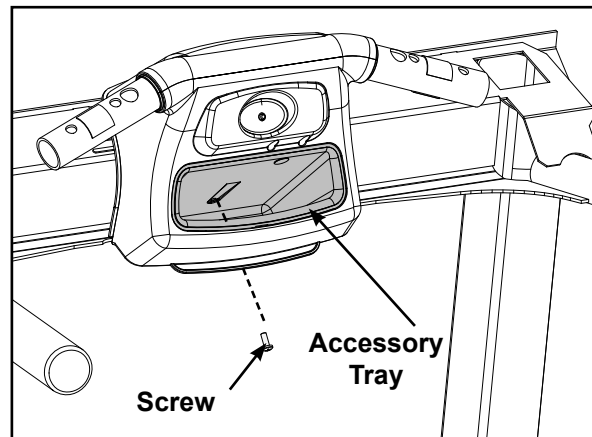

Figure 30
- Using a Phillips screwdriver remove the screw securing the accessory tray to the lower handle cover. See Figure 30.
- Using a Phillips screwdriver install the screw securing the accessory tray to the lower handle cover. See Figure 30.